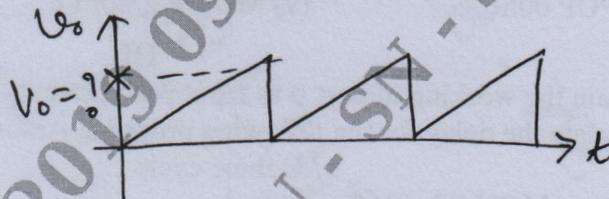

Fig.Q9(c)
c. Calculate  $V_0$  of sawtooth wave (with respect to DAC interface) with the following program. Assume  $R_F = 5$  K $\Omega$  in I/V converter in DAC circuit interfacing. [Refer fig.Q9(c)]